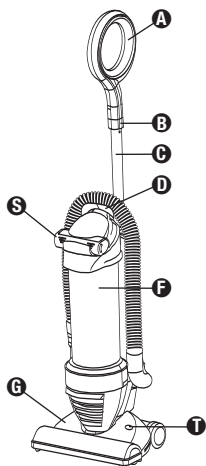

FIG. 1
- A** Handle grip (FIG. 1)
- B** Cord retainer (FIG. 1)
- C** Handle tube (FIG. 1)
- D** Hose holder (FIG. 1)
- F** Dust cup (FIG. 1)
- G** Floor nozzle (FIG. 1)
- S** Power Paw™ turbo brush (on some models) (FIG. 1)
- T** Check brushroll light (FIG. 1)
- A** Agarradera del mango (FIG. 1)
- B** Retén para el cordón (FIG. 1)
- C** Tubo del mango (FIG. 1)
- D** Sostén de la manguera (FIG. 1)
- F** Recipiente para polvo (FIG. 1)
- G** Boquilla para pisos (FIG. 1)
- S** Cepillo turbo Power Paw™ (en algunos modelos) (FIG. 1)
- T** Luz de control del cepillo giratorio (FIG. 1)